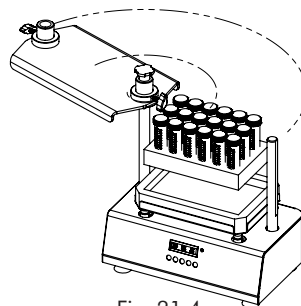

Fig. 21.4
- Place the test tube on the test tube holder (fig. 21.4) then fix it on the foam holder as shown in the fig. 22.1